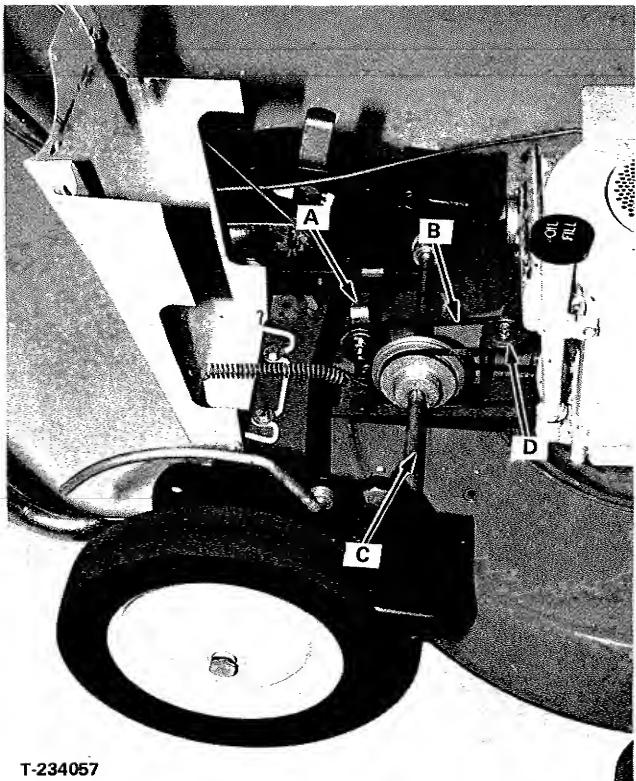
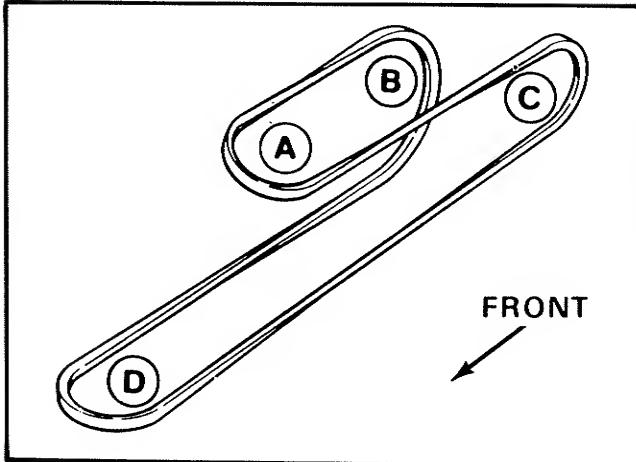

FIGURE 14 - BELT INSTALLED ON PULLEYS
FIGURE 15 - BELT PATTERN
2. Push the spring loaded vertical idler pulley arm (A, Figure 14) forward and slip the old belt up off the horizontal pulley (D). Figure 14.
7. Run the belt under the shaft pulley (C) and idler pulley (A), then around to the top horizontal pulley (D). Make certain that the belt is properly installed as in Figure 14. See belt pattern in Figure 15.
NOTE: Be sure belt is seated in the pulley grooves and belt is twisted properly. See the belt pattern shown in Figure 15.